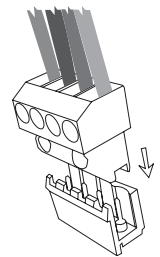

Figure 5
- 4.) Insert both input and output terminals into the proper locations on the volume control; see **Figure 5**.